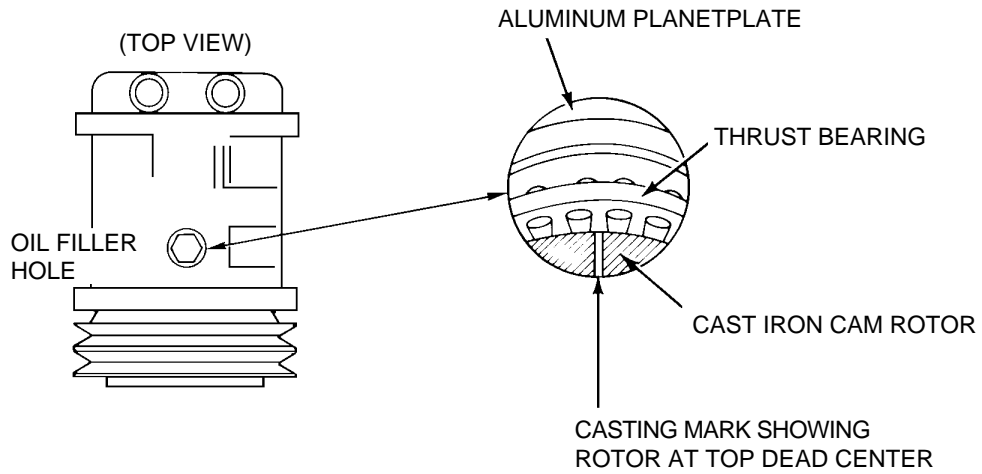

Figure 21-28. Top Dead Center Casting Mark (Sankyo Compressor)
4. Position the rotor to top dead center (refer to Figure 21-28) by rotating the clutch front plate until the casting mark is visible in the center of the hole.